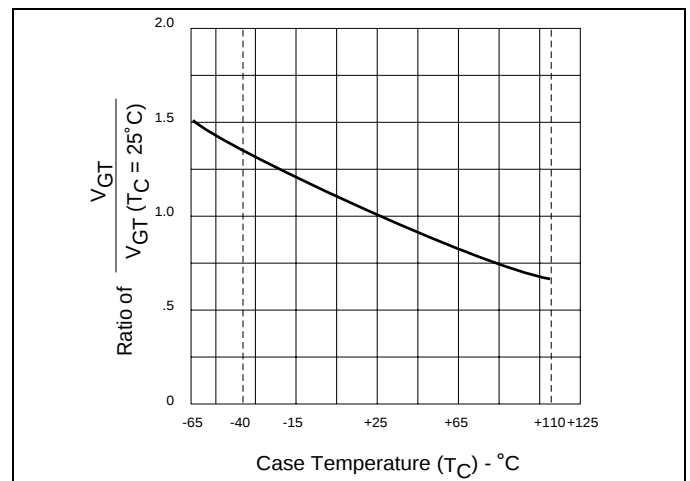

Figure 1.6 Normalized DC Gate Trigger Voltage for All Quadrants vs Case Temperature
- (5) See Figure 1.6 for V_{GT} vs T_C .